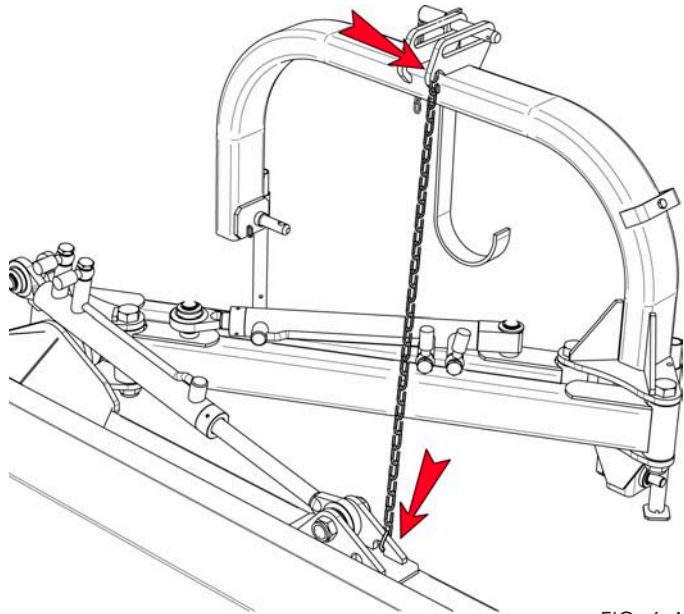

FIG. 6.4
- Fix the flail head with the chain provided, to prevent movements outside the machine profile (FIG. 6.4).